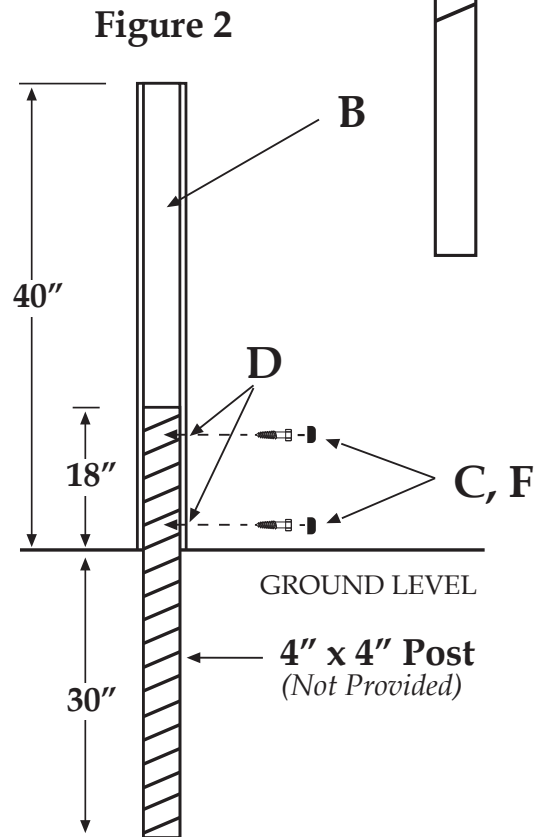

Figure 2
- 3) Place the 4" x 4" post into the hole so that the face of the post is at the marked line (See step 2) leaving at least 18" out of the ground. (See Figure 2)
- 7) Slide aluminum post (B) over the partially buried 4x4 wood post and plastic sleeve with the two bolt holes positioned away from the road and the aluminum post resting on the ground. (See Figure 2)
- 8) Plumb the aluminum post to vertical and use 2 - 1/4" x 2" lag bolts provided (C) to secure aluminum post to treated post.
(See Figure 2 - drilling pilot holes in the wood may be necessary)
- 3) Place the 4" x 4" post into the hole so that the face of the post is at the marked line (See step 2) leaving at least 18" out of the ground. *(See Figure 2)*
- 8) Slide aluminum post (B) over the partially buried 4x4 wood post and plastic sleeve with the two bolt holes positioned away from the road and the aluminum post resting on the ground. *(See Figure 2)*
- 9) Plumb the aluminum post to vertical and use 2 - 1/4" x 2" lag bolts provided (C) to secure aluminum post to treated post. *(See Figure 2 - drilling pilot holes in the wood may be necessary)*